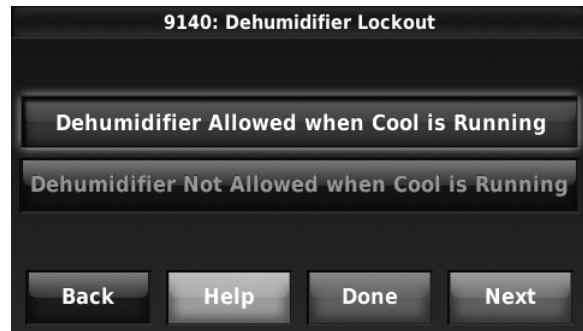

Fig. 232.
7. Set the desired lockout option. See Fig. 232.